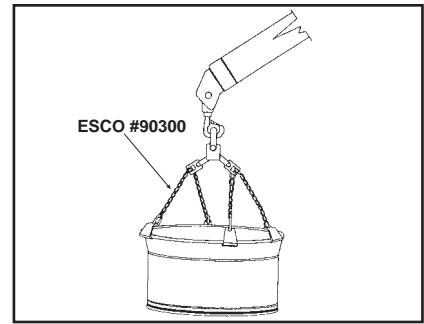

Figure 9
1. Carefully lift the bead seat band off the rim. Use a hoist, pry bars, and the ESCO Flange Ring Puller Model 90300. (See Fig. 9.)